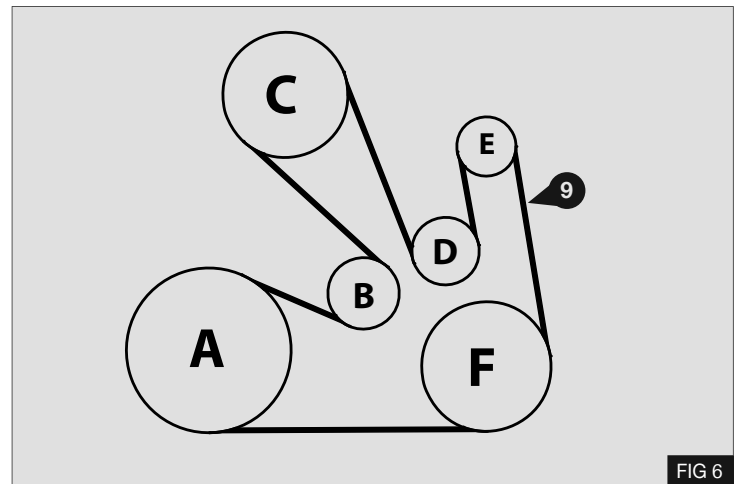

FIG 6
2. Attach the compressor to the mount bracket ① by bolt ③ flat and locking washer ④, ⑤ and nut ⑪.
Attach the base the compressor with bolts ⑦ - Fig 6
1. Fit the supplied drive belt ⑨ to the vehicle - Fig 6